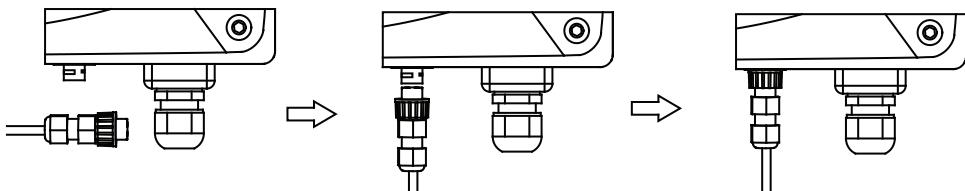

Figure 37 Detailed connection
(1) Connect the communication connector configured for the inverter to the RS485 terminal of the inverter, as shown in Fig 37;